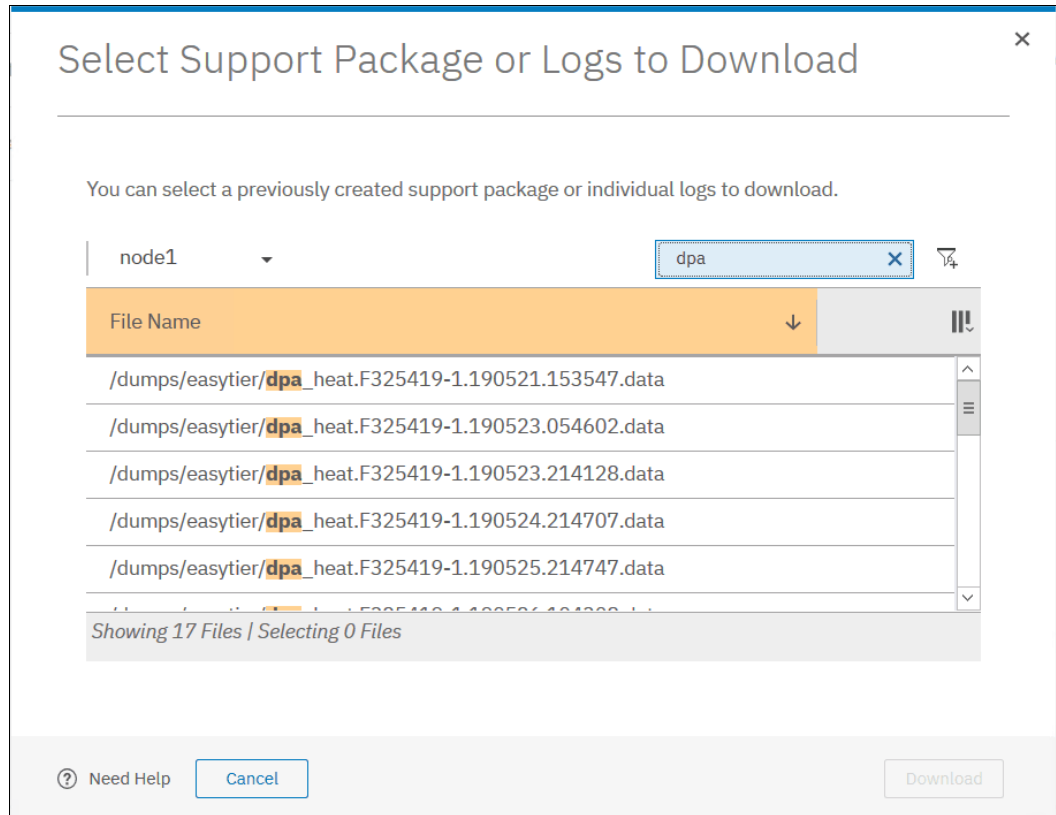

Figure 7-12 The Download Existing Package panel
3. The Download Existing Package panel opens. Set in the filter dpa to identify all the DPA files, as shown in Figure 7-12.